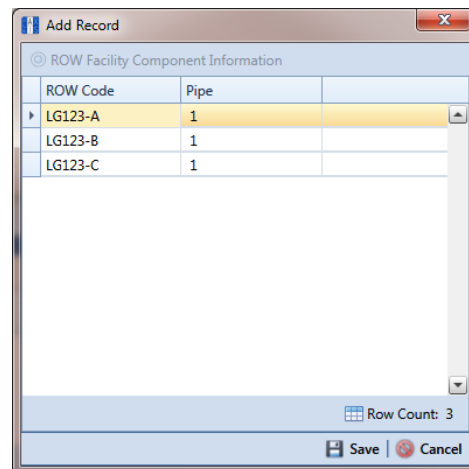

Figure 4-14. Add Record
- 6 Click **Add** to open the *Add Record* dialog box (Figure 4-14).